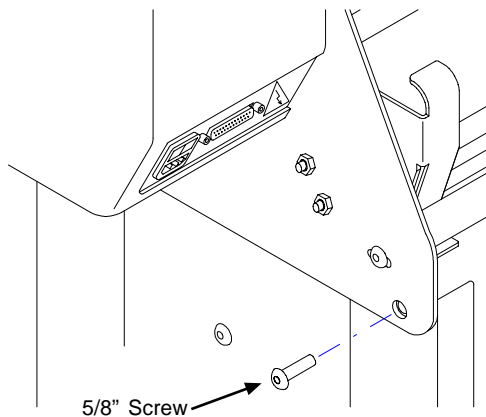

Figure 9. Fastening the end plate to the stand.
2. Insert a 5/8" button-head screw through the hole in the back of both end plates to connect the head to the stand. Tighten the screws with the supplied hex wrench. See *Figure 9*.